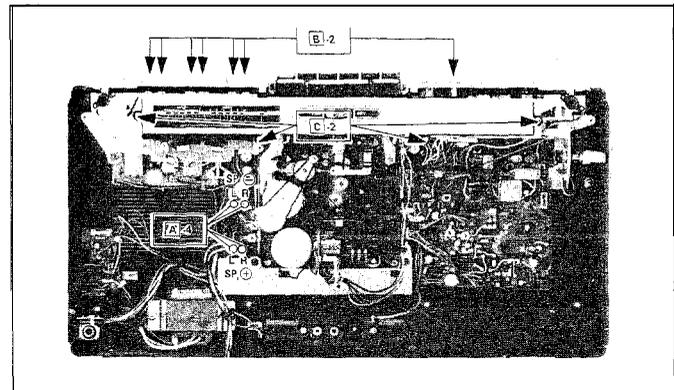
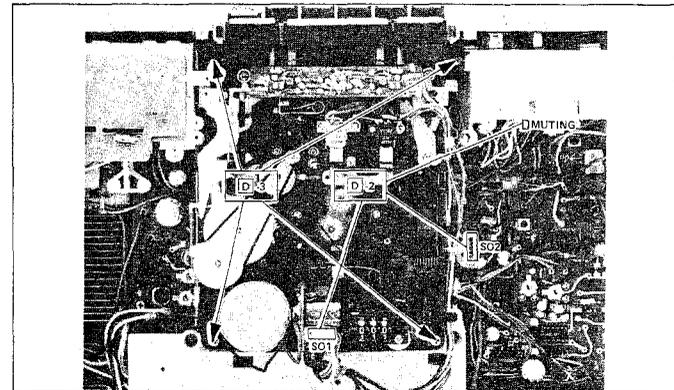

Figure 3
Figure 4
- B OPERATION PANEL REMOVAL** (Refer to Figure 3)
2. Remove seven (7) knobs (record level, bass, treble, volume and fader).
- C DIAL SCALE PLATE REMOVAL** (Refer to Figure 3)
2. Remove four (4) screws retaining the dial scale plate.
- D MECHANISM BLOCK REMOVAL** (Refer to Figure 4)
2. Disconnect the tip (muting) and two (2) sockets (SO1, SO2) connected to the main P.W. board and the motor P.W. board.
3. Remove four (4) screws retaining the mechanism block.